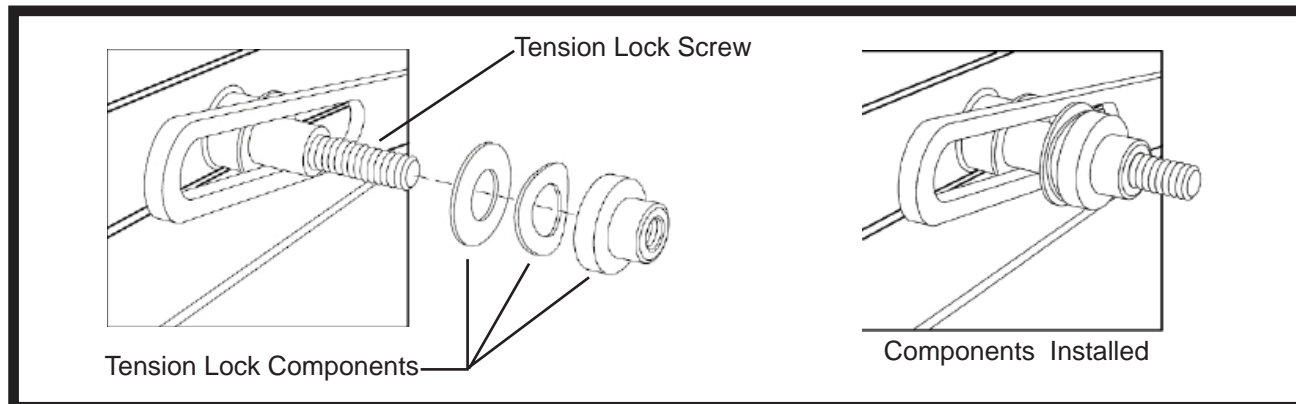

Figure 5-10. Tension Lock Components
1. First make certain that all of the tension lock knob components are installed over the screw on the Spring Arm Assembly. See Figure 5-10.